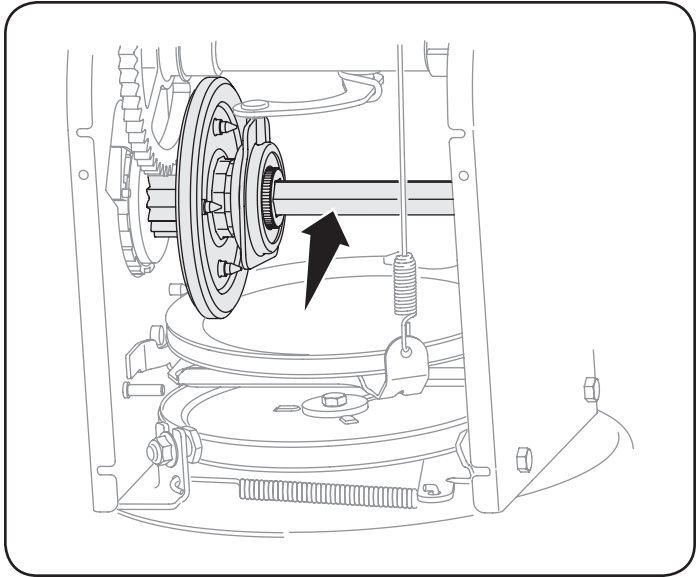

Figure 24
4. Apply a light coating of engine oil (or 3-in-1 oil) to the hex shaft. See Figure 24.